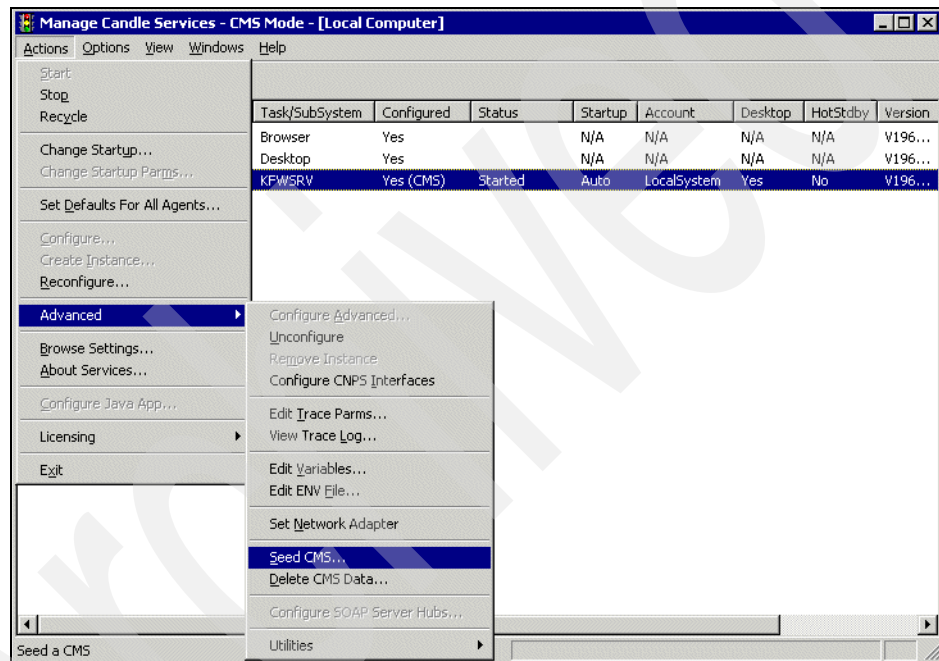

Figure 3-47 Seeding z/OS Tivoli Enterprise Monitoring Server
3. From the Actions menu in the Manage Candle Services window, select **Actions → Advanced → Seed CMS** as shown in Figure 3-47.